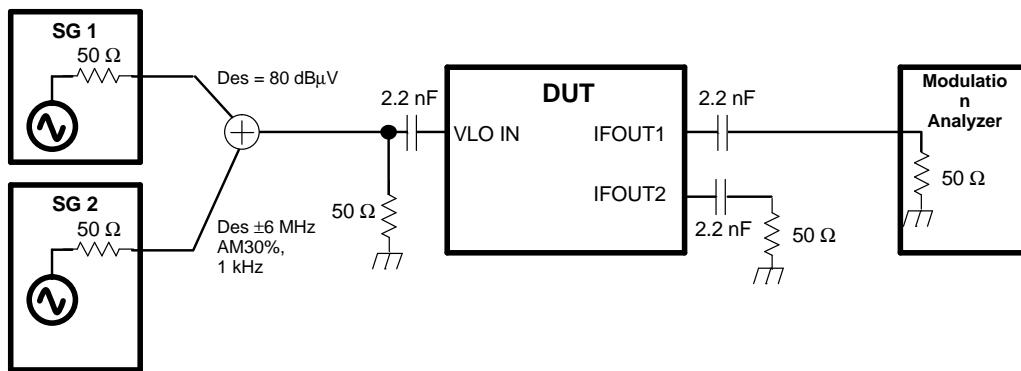

Figure 16. VHF-L 1% Cross-Modulation Distortion Measurement Circuit
(3) DES: $V_{IN} = 80$ $\text{dB}\mu\text{V}$, UNDES: $f_{\text{des}} \pm 6$ MHz, AM 1 kHz, 30%, DES/CM = S/I = 46 dB (see Figure 16).